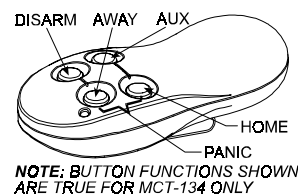

Figure 24. MCT-134 / 104
C. MCT-134 / MCT-104 (Fig. 24): 4-button hand-held units. MCT-134 (CodeSecure) can replace the MCT-234 keyfob. MCT-104 (PowerCode) can perform emergency and non-alarm functions. Both units look alike.